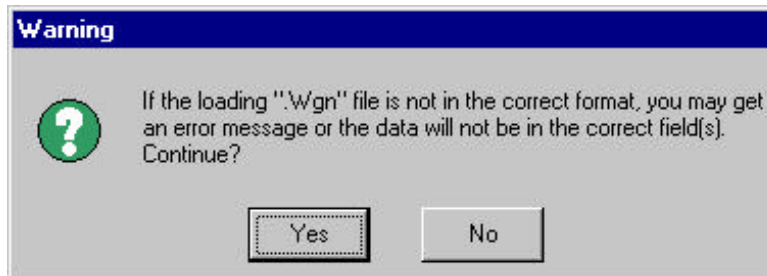

Figure 14.23
- b. A prompt box will appear, warning the user of potential problems if the .wgn file to be loaded is not in the correct format (Figure 14.23).